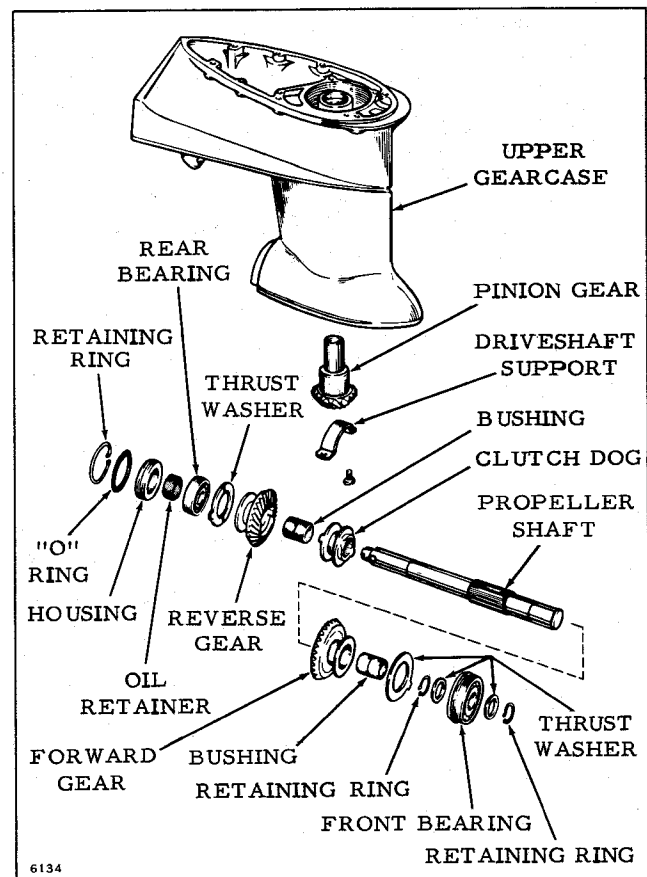

Figure 6-34. Installing Propeller Shaft and Gears
d. Install propeller shaft with oil retainer housing, bearings, thrust washers, gears, bushings and clutch dog. See Figure 6-34. Tabs on thrust washers fit into skeg half of gearcase, bronze sides must face gears.